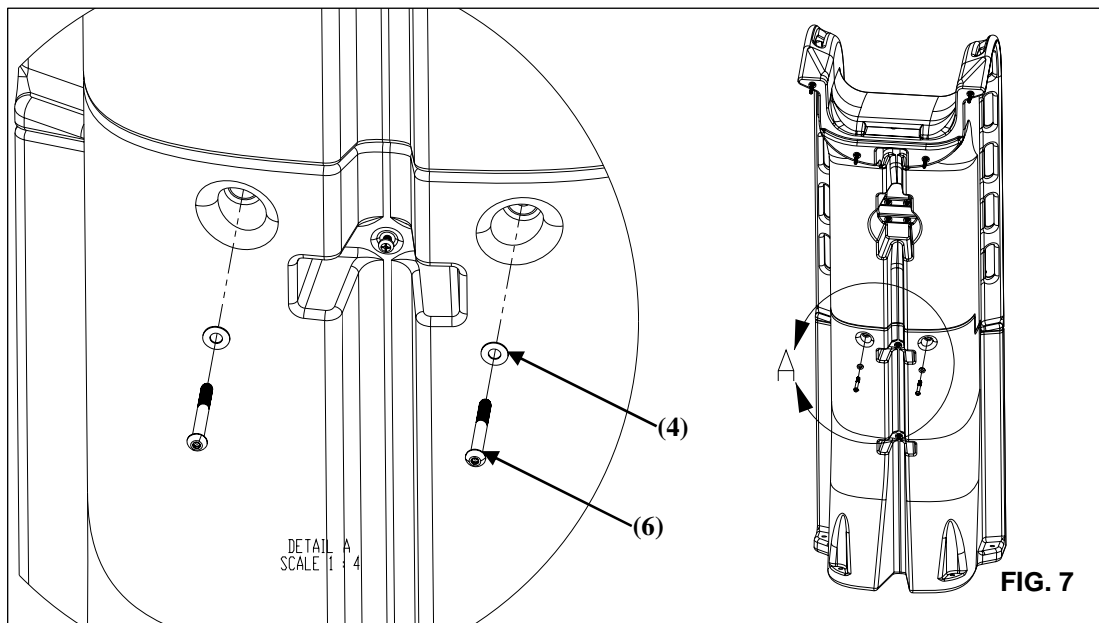

FIG. 7
6) Insert the button head cap screws into the back side of the ladder as shown in Figure 7. Tighten the screws until snug. Go back and fully tighten the screws from Step 7. **Note: Be sure to apply anti-seize to all fasteners to prevent galling.**